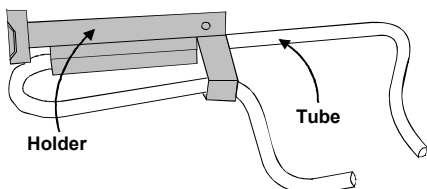

Figure 4
- Using the overflow tube holder and the overflow tube, hold the tube with the metal holder and screw the holder to the partition panel with the provided 1/2 inch #8 screw (Figures 4 & 5).